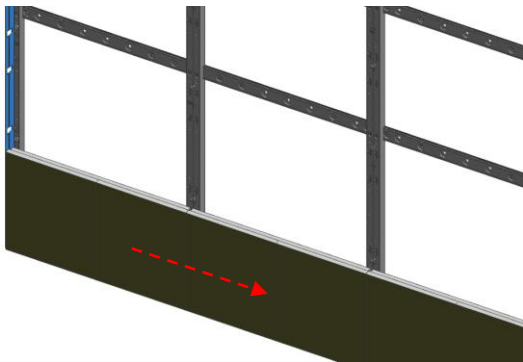

Fig.4 Installing the first stage of the Cabinet
- ④ Install the first stage based on the cabinet installed according to the Align jig. (Fig.4)